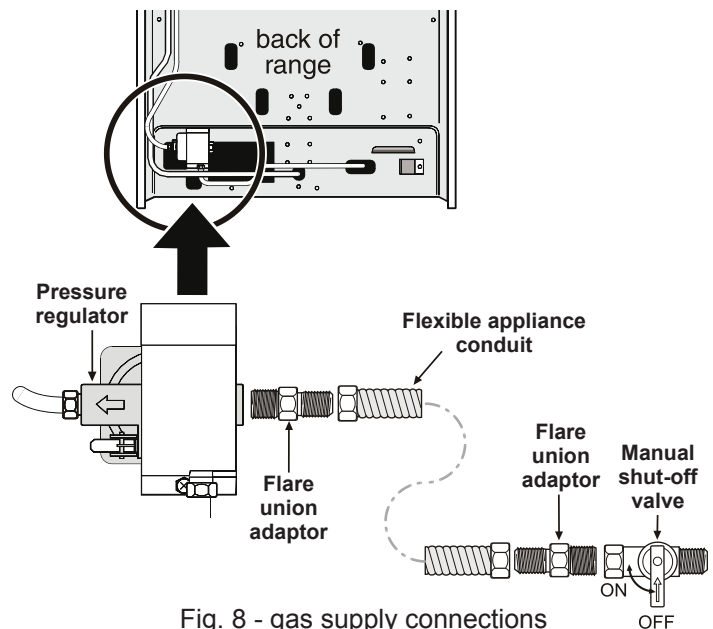

Fig. 8 - gas supply connections
- Install an external manual gas shut-off valve to gas supply line in an accessible location outside of range. Be sure you know where and how to shut off the gas supply to the range (See Fig. 8).
- Install 1/2" flare union adaptor to gas pressure regulator using **no more than 15ft./lbs.** of torque (Refer to Fig. 8).
- d. Install flare union adapter to external manual shut-off valve (See Fig. 8).
- e. Attach flexible appliance conduit to flare union adaptor on shut-off valve (See Fig. 8).